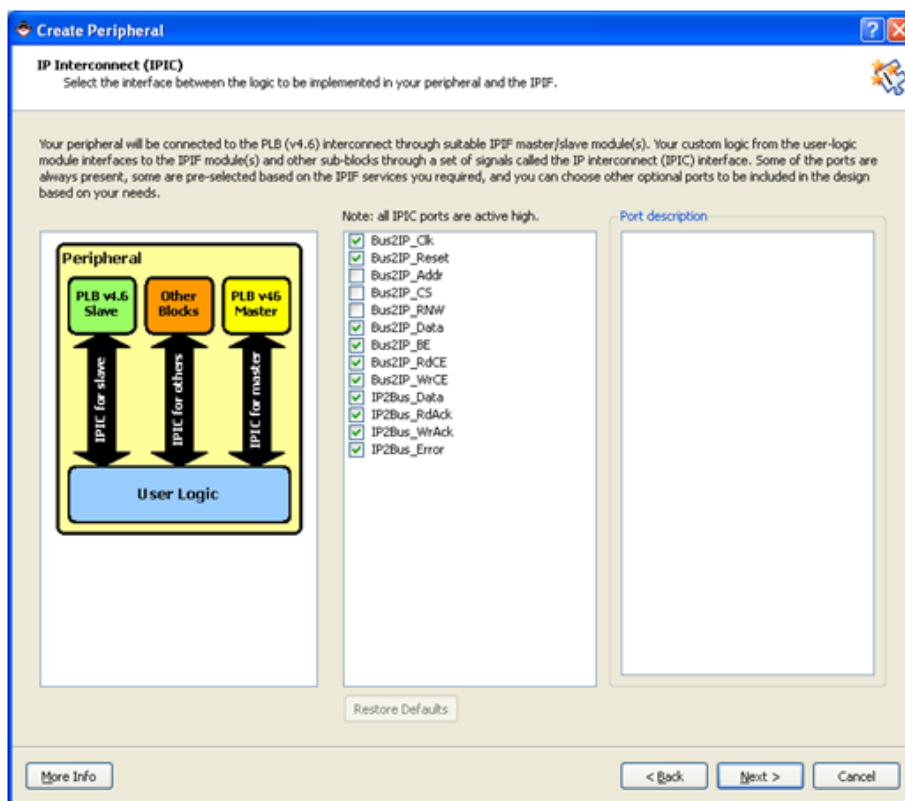

Figure 8. IP Interconnect (IPIC) Dialog Box
- 2-2-3.** Scroll through the **IP Interconnect (IPIC)** panel, which displays the default IPIC signals that are available for the user logic based on the previous selection (see **Figure 8**). Click **Next**.